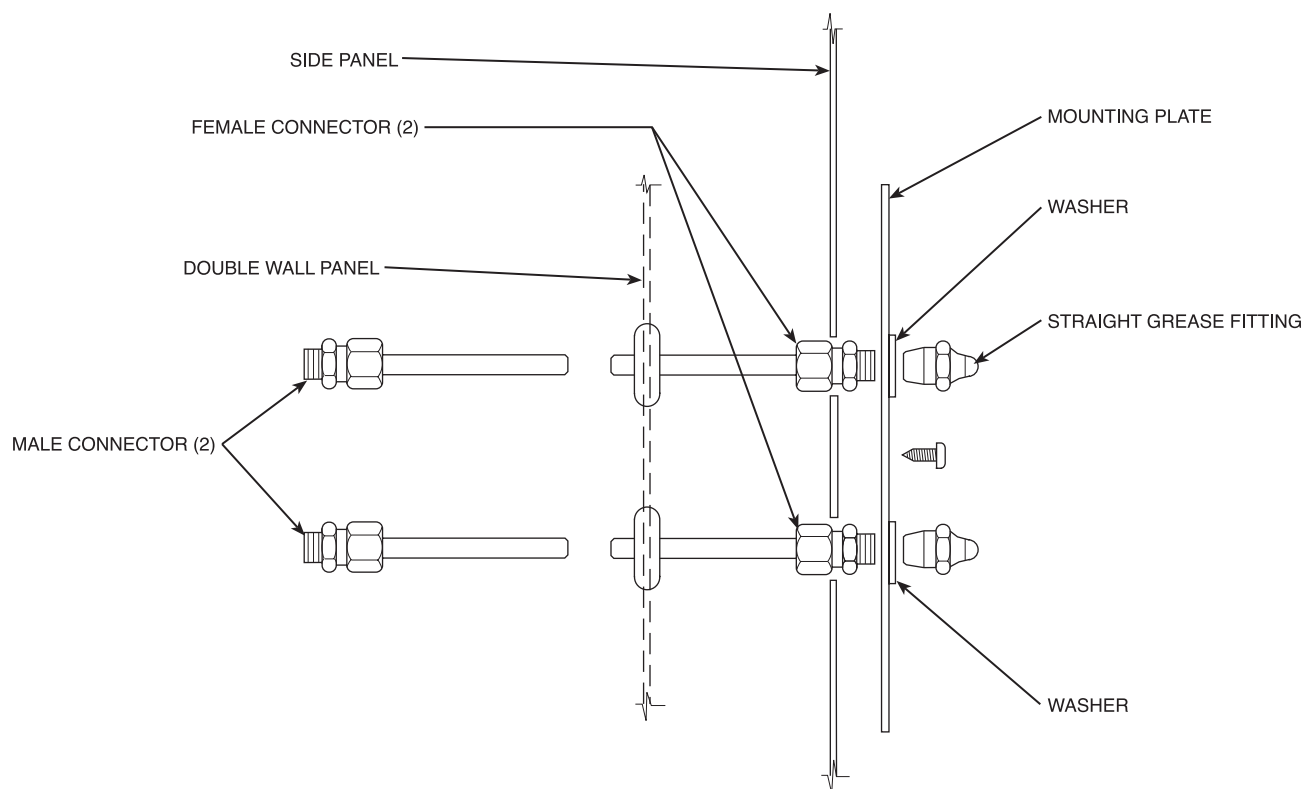

Fig. 2 — Typical Lubrication Line Assembly Sequence
7. Use grommets (in kit) where tubing passes through sheet metal. Assemble terminal fittings as shown in Fig. 2.